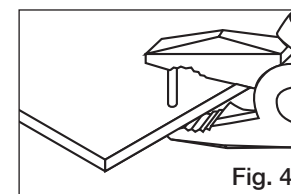

Fig. 4
- Using pliers insert the pins supplied in the kit into the holes (Fig. 4).